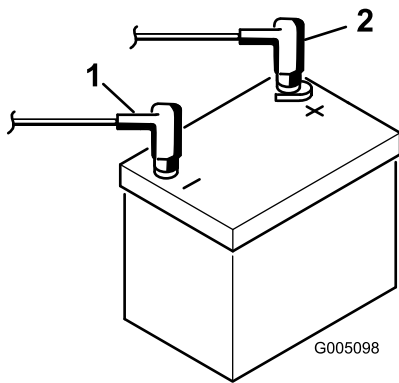

Figure 6
2. Connect the positive battery cable (red) from the starter solenoid to the positive post (+) of the battery (Figure 6). Secure it with a wrench and coat the terminal with petroleum jelly. Make sure the cable will clear the seat, in the rear-most position, which could cause wear or damage to the cable.